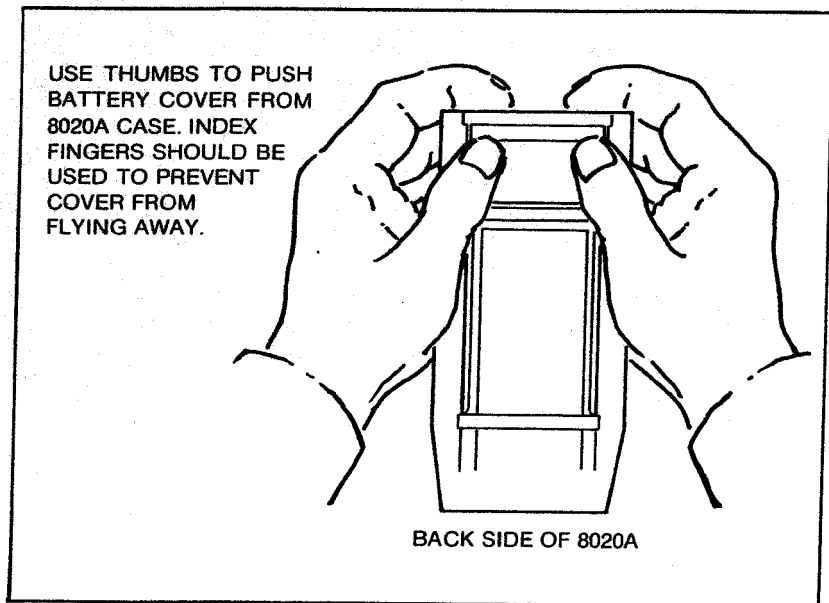

Figure 1-1. Removing the Battery Cover
3. Open the battery compartment on the bottom of the 8020A using the method shown in Figure 1-1.
6. Look inside of the battery eliminator connector on the right side of the 8020A and locate the connector contacts (center post and side contact as shown in Figure 1-1).